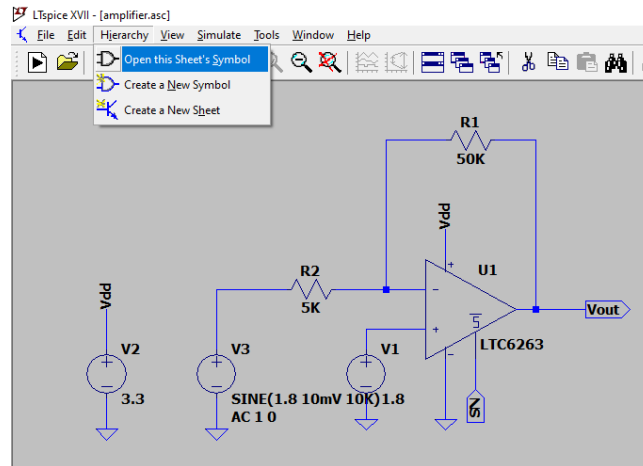

Figure 3: Creating a symbol from a schematic
2. Create a symbol for this schematic as shown in Figure 3.